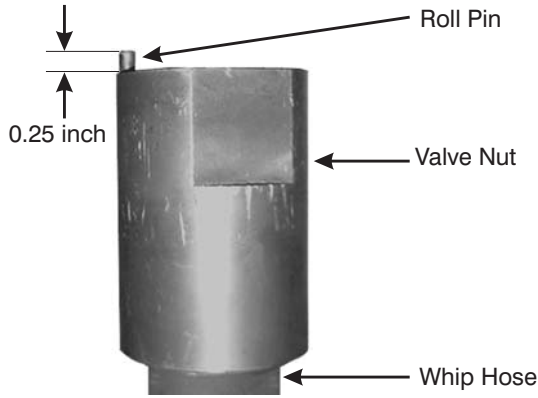

Figure 11-10. Valve Nut Assembly
- b. Use a 2-inch open end wrench to thread the Q.D. Socket (17) from the Hose Socket (14).
5. Refer to Figure 11-10. Inspect the Roll Pin (11) for damage and correct height. The Roll Pin should extend 1/4-inch from the Valve Nut (12).